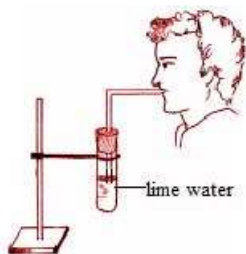

Fig. 3.3. Passing breath into lime water
- ☞ Exhale your breath into it as shown in Fig 3.3.